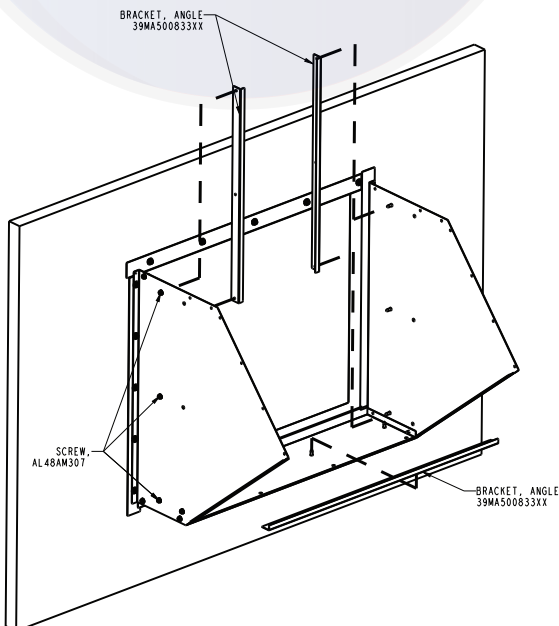

Fig. 73 — Attaching the Angle Brackets
- Attach inner angle brackets to side and bottom panels using the 1/4 in.-14 x 5/8 in. long sheet metal screws (without neoprene washer.) See Fig. 73.